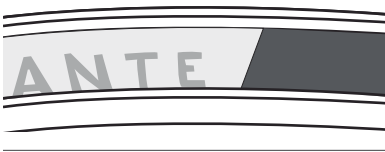

Figure 6. Start the rim tape centered between the spoke nodes.
2. Attach the initial end of the tape so that it is centered between two spokes but not at the valve hole (Figure 6).